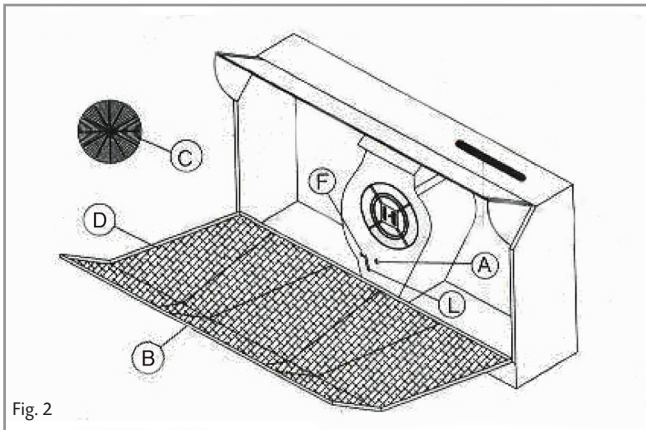

Fig. 2
To remove the grease filter, first open the grease filter cover by sliding the retaining clips across. Then remove the filter clips (shown as B in figure 2) before removing the grease filter itself (shown as D in figure 2). To replace the grease filter, repeat the steps in reverse.
To ensure best performance of your extractor, you should replace the charcoal filters every four to six months, depending on use. To attach a new charcoal filter, first open the grease filter cover as described above. Then offer up the charcoal filter (shown as C in fig 2) to the base of the motor and turn it clockwise until it locks into place.
If the extractor is to be used in recirculation mode, ensure that the lever (E) on the base of the motor is turned from position A (ducted) to position F (re-circulation), as shown in Fig 2.